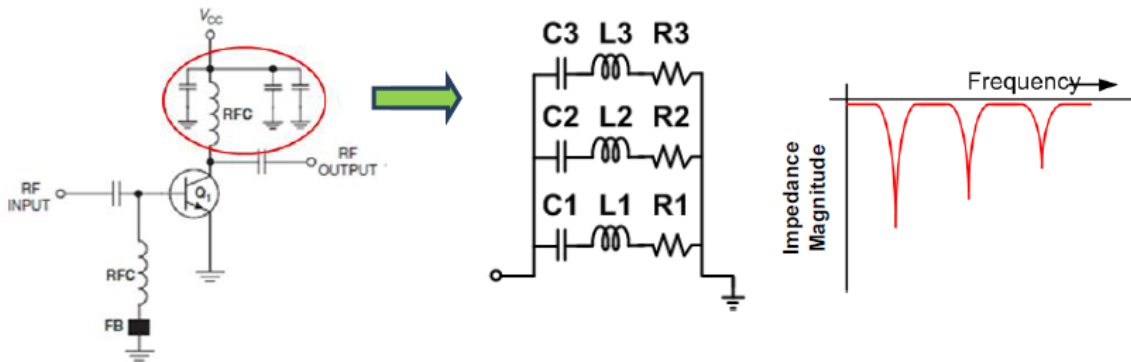

Fig. 16 Capacitor array used as bypass to ground
It is often desired to bypass some point to ground over a large frequency range, that is, provide a path having very low impedance to RF signals while still blocking DC. In the past, this was typically accomplished by an array of capacitors having different values, as shown in Fig. 16.
Here, C1 might be perhaps 100 pF, C2 might be 1 nF, and C3 might be 10 nF. There were two problems with this arrangement: (1) Above the series resonance of C3 $[= (2\pi)^{-1}(L3C3^{-0.5})]$, its impedance was inductive and would create a parallel resonance with C1 and C2; and (2), the individual capacitors had their own built-in parallel resonances. Either problem led to an impedance magnitude vs. frequency characteristic similar to that shown on the right of Fig. 16. To reduce the magnitude of the resonances, additional loss would need to be introduced in the form of low-value resistors connecting the capacitors or ferrite beads surrounding the connecting leads. **In contrast, broadband capacitors offer a simple, cost effective way to replace these arrays with a single capacitor.**